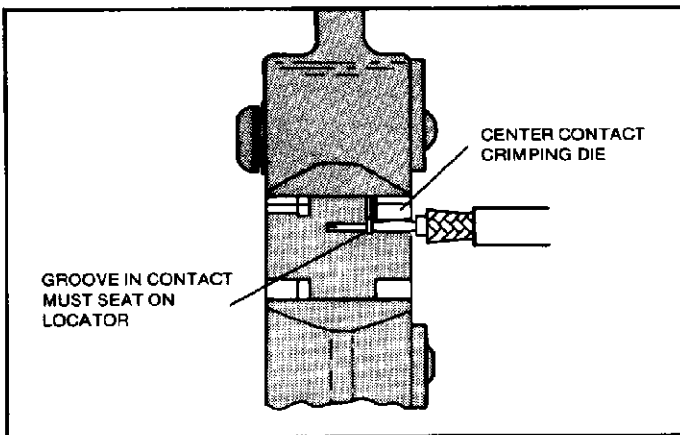

Figure 3
- (d) Place contact on locator as shown in Figure 3. Groove in contact must seat on locator.